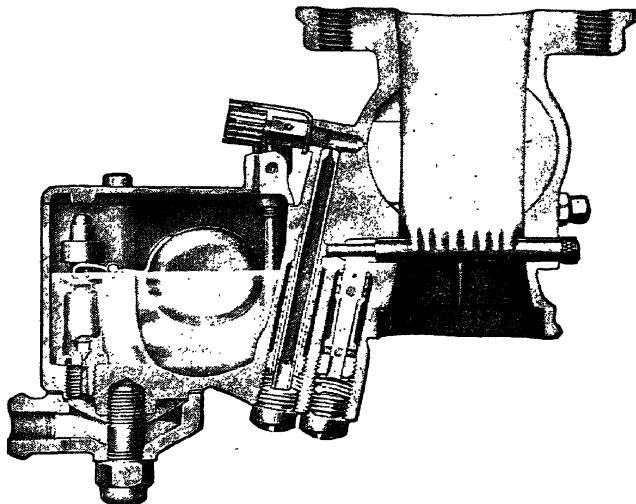

Fig. 103. Cross Sectioned View of Winfield Carburetor at Wide-Open Throttle
**Half- to Wide-Open Throttle.** As the throttle passes the air passage divider, which is located at the half-open position, the added fuel is supplied from the high-speed well. See Fig. 103. The level in this well drops according to the vacuum applied. When a relatively high vacuum for wide-open throttle operation is reached, the well is empty. This occurs at a speed beyond which no further well action is required and is appreciably less than full speed. If the motor were then placed under a heavy load which would pull the car down to about five miles per hour, this level would come back up to the top of the relief in the compensator. With the arrangement and design of the high-speed compensator, there are two stages of synchronized acceleration in this well.